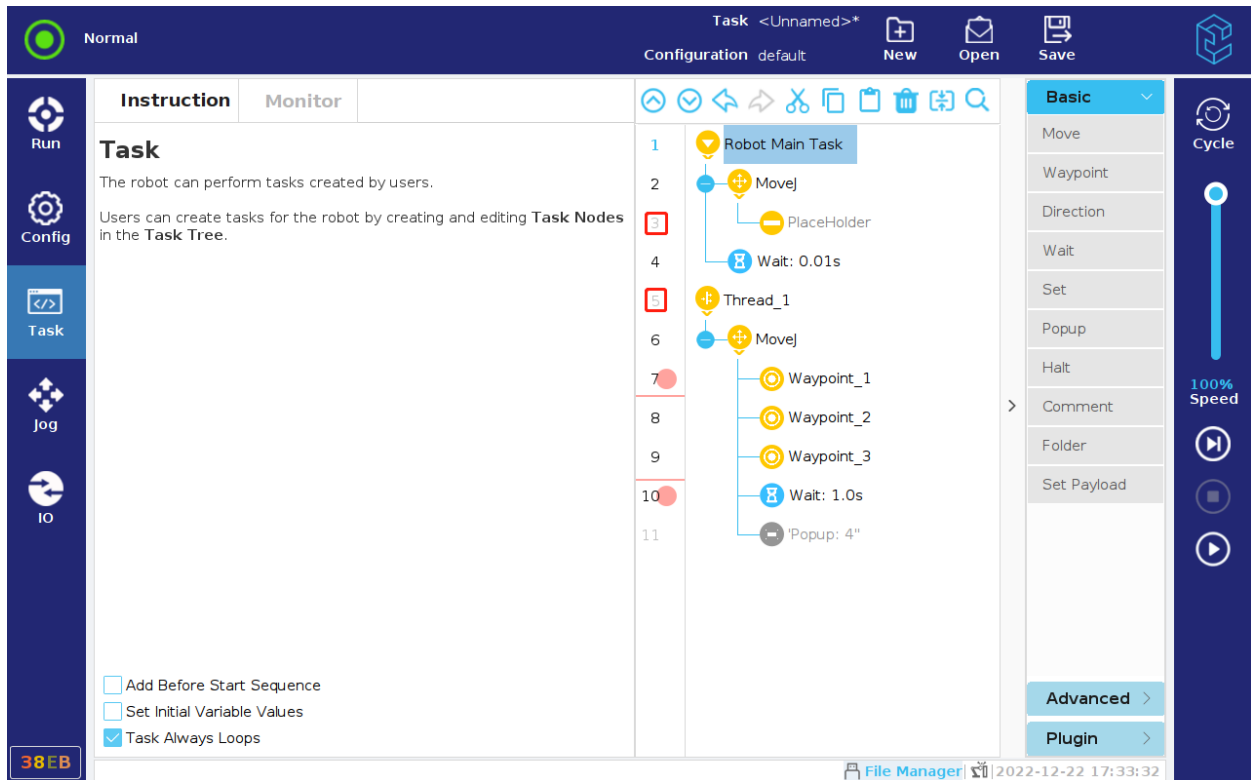

Figure 12-37 Breakpoint
- If these nodes are selected, the line number goes to light blue (see the line number “5” in Figure 12-37);
- If they are not selected, the line number is marked as light gret (see the line number “3” in Figure 12-37).